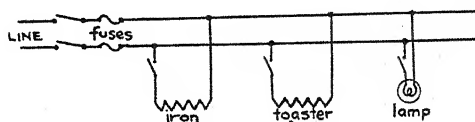

FIG. 8. Parallel circuit of home equipment.
**14. Parallel Circuits.** Parallel circuits are very common in household wiring. All the various lamps, the iron, the toaster, etc., in the average house are really in parallel connection, on the main line, as shown in Figure 8.
Figure 8 shows clearly that parallel circuits have more than one possible current path. These various paths are commonly called branch parts of the circuit. Each branch connects across the main line. Therefore, all branches are in parallel.
In Figure 8, if the iron draws 5 amperes, the toaster 3 amperes, and the lamp only 1 ampere, when all three units (or branches) are in use, the main line will have to supply a total of 9 amperes ( $5 + 3 + 1$ ). None of the current in any one branch of a parallel circuit passes through any other branch.
**15. Ohm's Law in Parallel Circuits.** In applying Ohm's law to a parallel circuit, the caution of keeping all values of amperes, volts, and ohms referring to the same part of the circuit, must be observed. Figure 8 may be used to make this clear.
By similar reasoning, in the case of electrical resistors, connected in parallel, it may be shown that the total resistance of several parallel branches (such as in Fig. 8) is less than the resistance of the smallest single resistor branch.